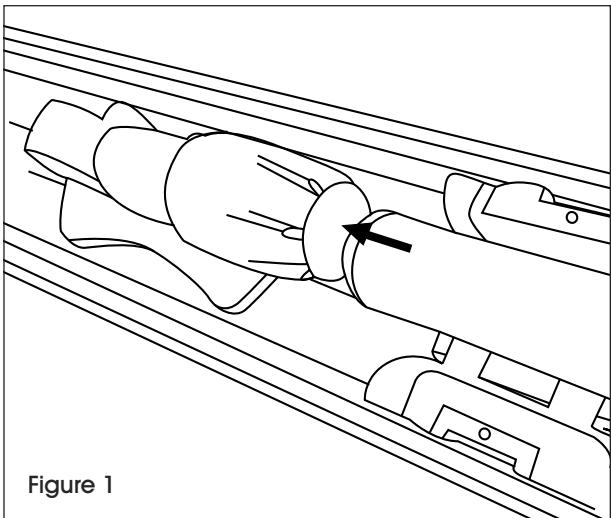

Figure 1
2. Insert smaller end of mop handle into joint of mop head. (See Figure 1)